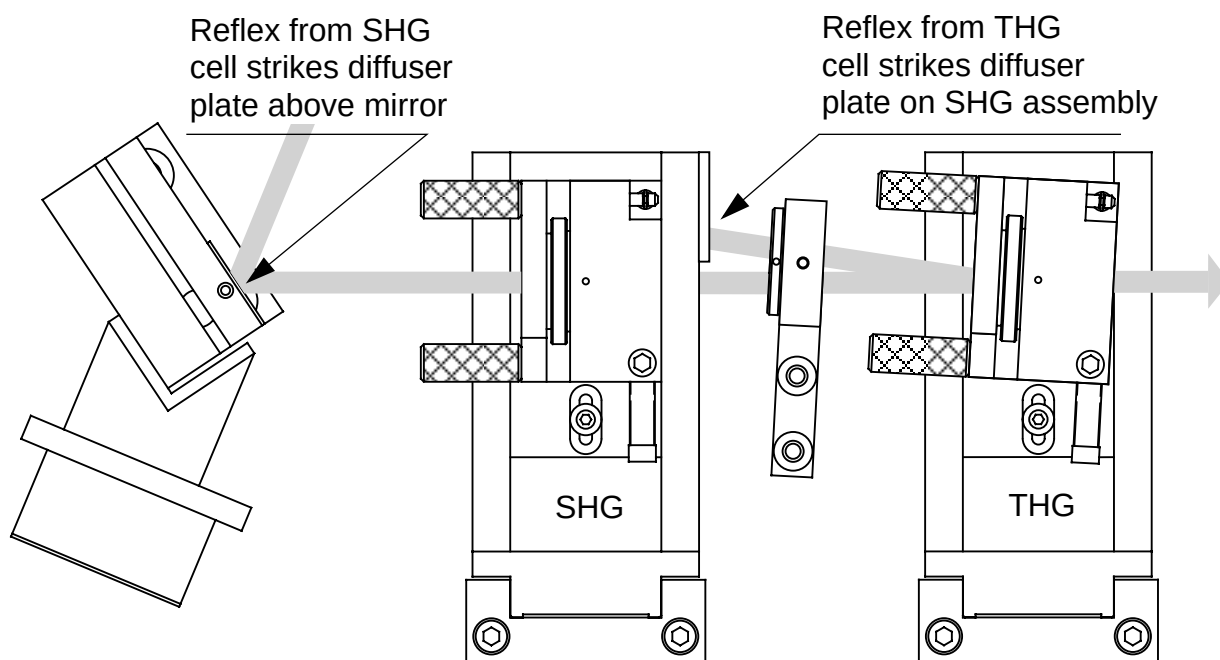
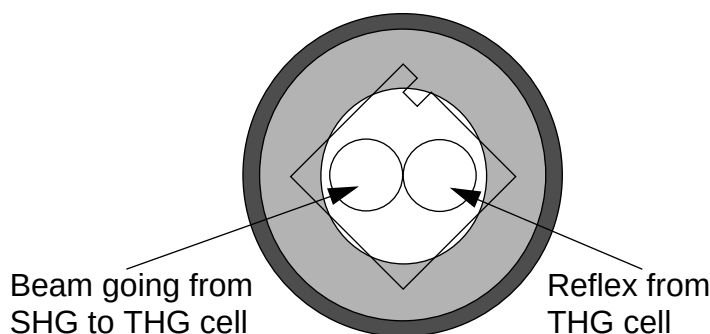

Figure 5-6. Beam Path through SHG and THG Optics
Figure 5-7. Beam Paths through THG Wave Plate, seen from the THG Crystal
3. Position the waveplate holder, 2 in Figure 5-5, relative to the beam according to Figure 5-6 and Figure 5-7. Secure it to the base plate.